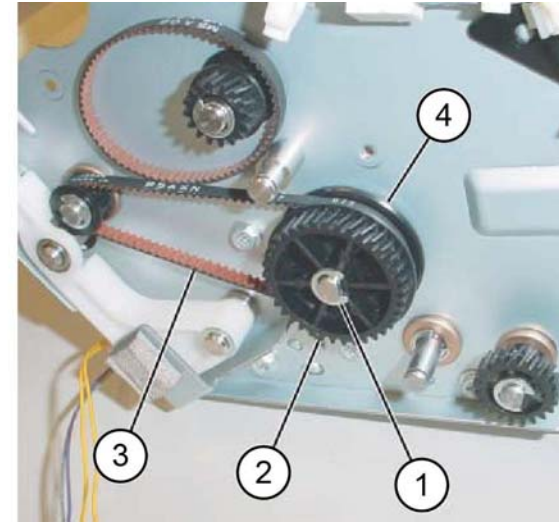

Figure 2 Gear pulley removal
4. Remove the gear pulley, Figure 2:
- a. Remove the E-clip (1).
- b. Remove the gear (2).
- c. Remove the flange (3).